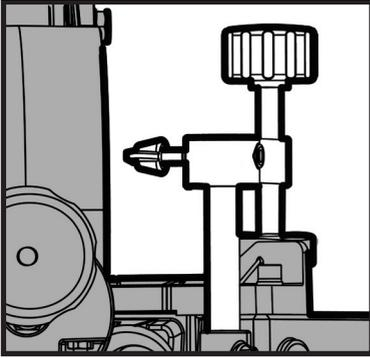

Fig 8
1. Hold down clamps can be fitted on either side of the saw and are fully adjustable to suit the size of the workpiece (see fig 8). The clamp will fit into either of the posts integrated into the machine fence.